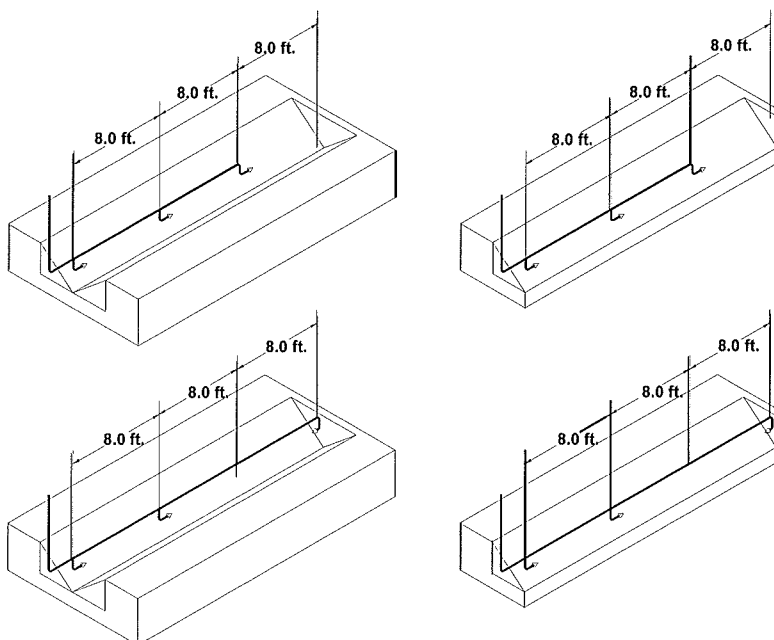

Figure 3.3 Plenum Coverage Limitations, Model NL-A Nozzle.
The Model NL-A nozzle is a one (1) flow point nozzle that has been developed to protect the plenum section of the exhaust hood. Only one (1) Model NL-A nozzle can be used on a single plenum branch. A single Model NL-A can protect a plenum (with single or V-Bank filters) with rectangular dimensions of 8' x 4' or less. Larger plenums can be protected by dividing the hazard area so that each nozzle protects an area of 8' x 4' or less (see **Figure 3-3**).